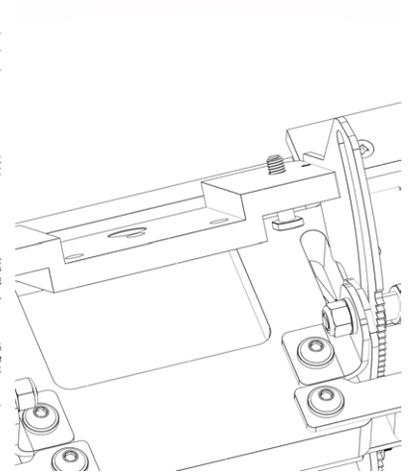
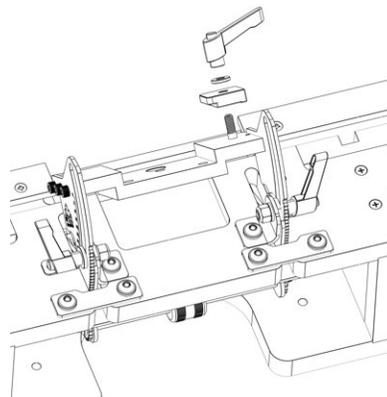
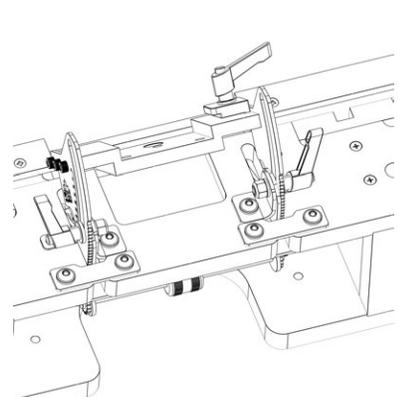

FIG. 6
FIG. 7
FIG. 8
1. Raise the angle to 45 degrees and lock the miter attachment. Slide (1) threaded T-Bolt (Part #10) through the hole on the universal plate, (See Figure 6). D`UW (1) Clamping Block (Part # 10) and (1) 1/4" S/S Washer (Part # 2) (See Figure 7) and (1) Adjustable Handle (Part # 4) (See Figure 8) over the threaded stud. Repeat steps on opposite side. Unlock and lower the miter attachment.